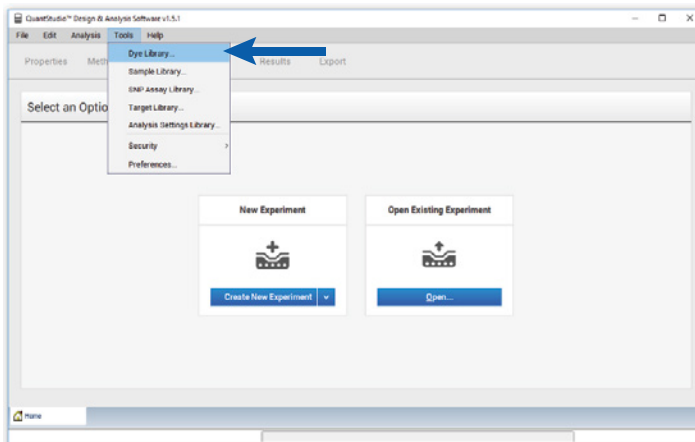

Figure 32. The QuantStudio™ Design and Analysis Software Tools menu.
1. Select **Tools** from the toolbar. Select **Dye Library** from the drop-down menu (Figure 32).